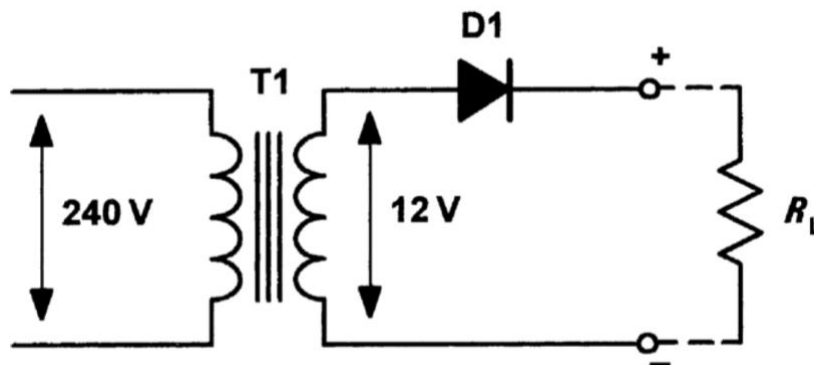

Figure 1.3 A simple half-wave rectifier circuit
- The simplest form of rectifier circuit makes use of a single diode and, since it operates on only either positive or negative half-cycles of the supply, it is known as a half-wave rectifier. Fig. 1.3 shows a simple half-wave rectifier circuit.